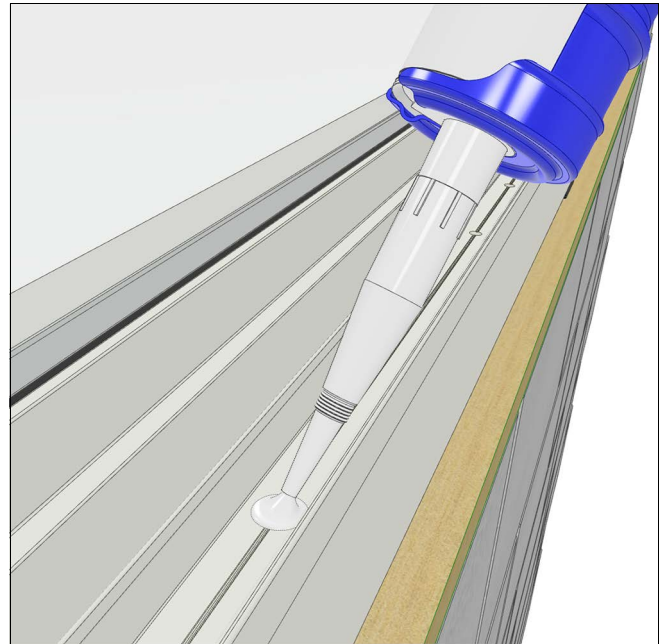

Figure 13
6. Inject sealant into and around the installation holes in the frame. See Figure 13.